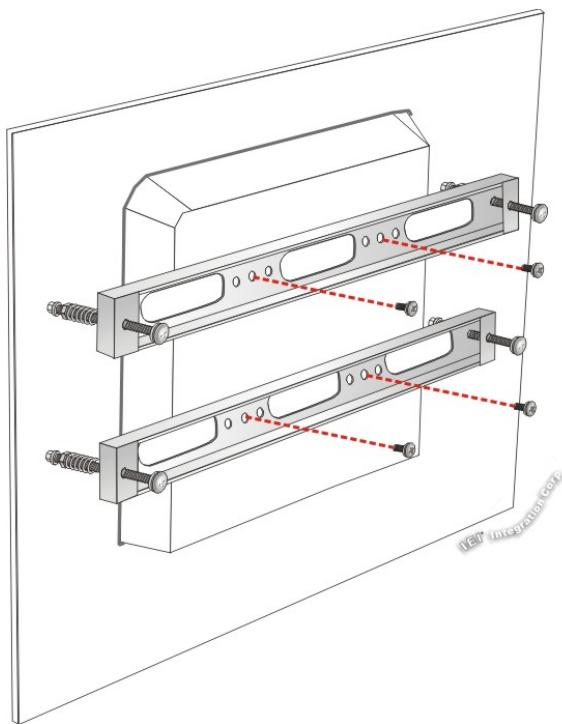

Figure 3-13: Securing Panel Mounting Brackets
Step 7: Secure the two panel mounting brackets to the rear of the panel PC by inserting the four retention screws into the VESA mounting holes and tightening them **(Figure 3-13)**.